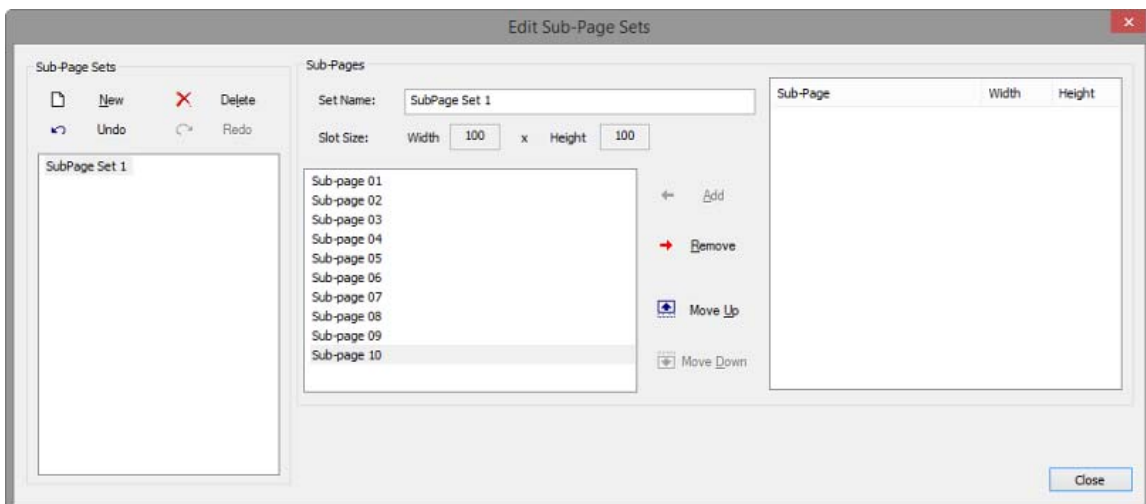

FIG. 111 Edit Sub-Page Sets dialog - "Sub-Pages 01 - 10" added to "SubPage Set 1"
- Repeat this action until all of the Sub-Pages have been added to Sub-Page Set 1 (FIG. 111):